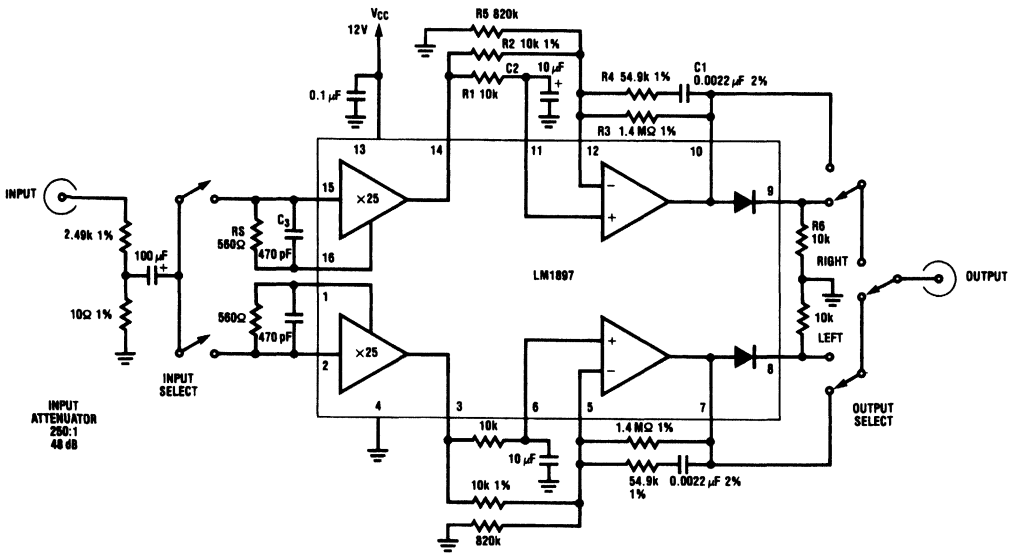

FIGURE 2. General Test Circuit
**Note 3:** The numbers are referred to an output level of 160 mV at Pins 7 and 10 using the circuit of Figure 2. This corresponds to an input level of 0.3 mV RMS at 333 Hz.